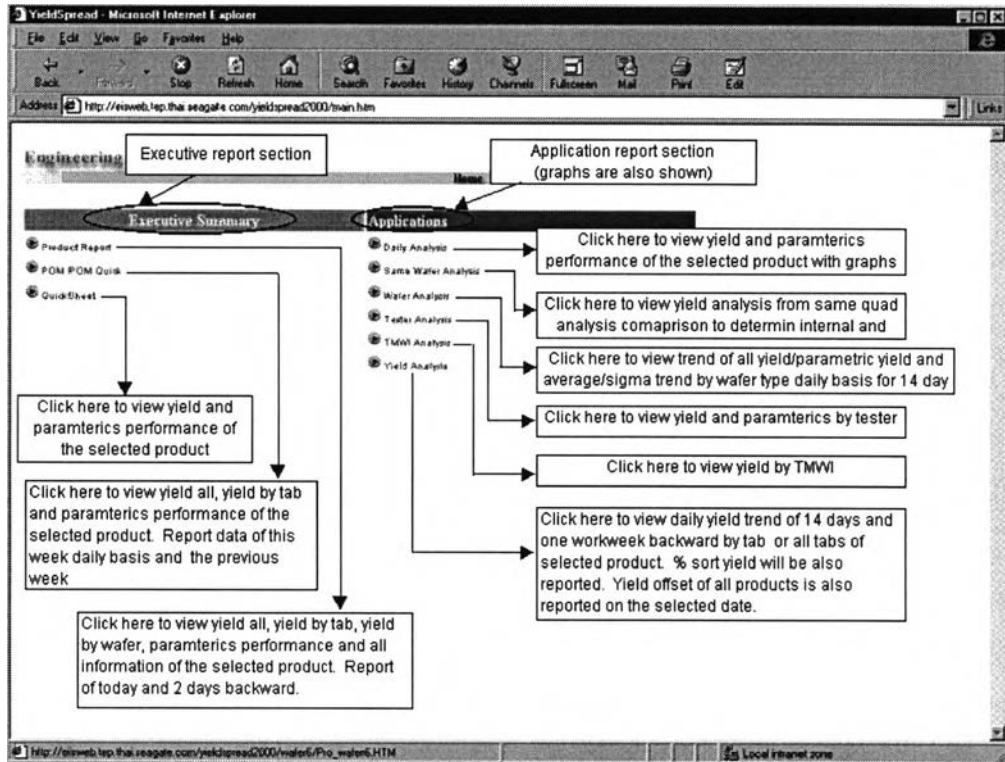

Figure 1 Reports in Analysis Model
2. Click "YIELD SPREAD" icon. Main menu will be shown as figure 1 which contains list of reports. There are two main categories; executive summary report and application report.